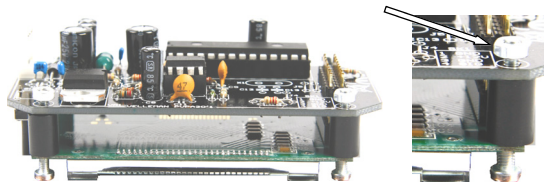

Fig.1
2. Assemble the unit but do not yet tighten the bolts (fig.1).